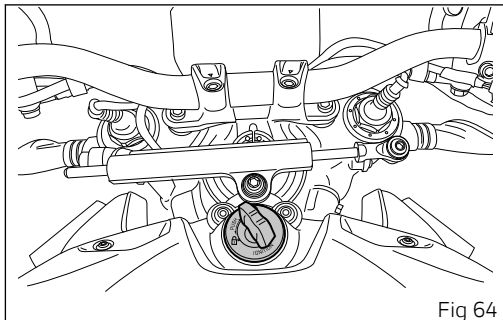

Fig 64
The engine will shut off by moving the switch (3) downwards to  (engine stop). Turn the key to OFF (Fig 64).